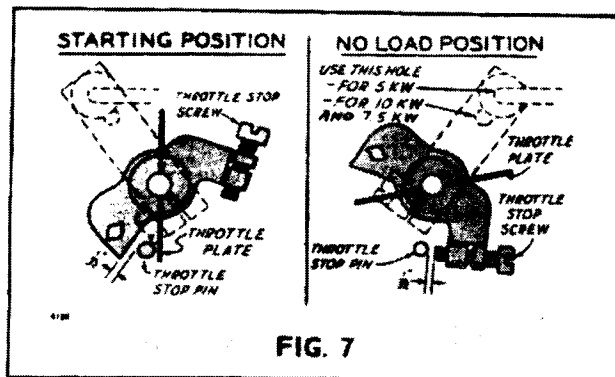

FIG. 7
1. With the plant stopped, the clearance between the carburetor stop lever should be approximately  $1/32''$ , Fig. 7. This clearance can be adjusted by turning the ball joint on the link.